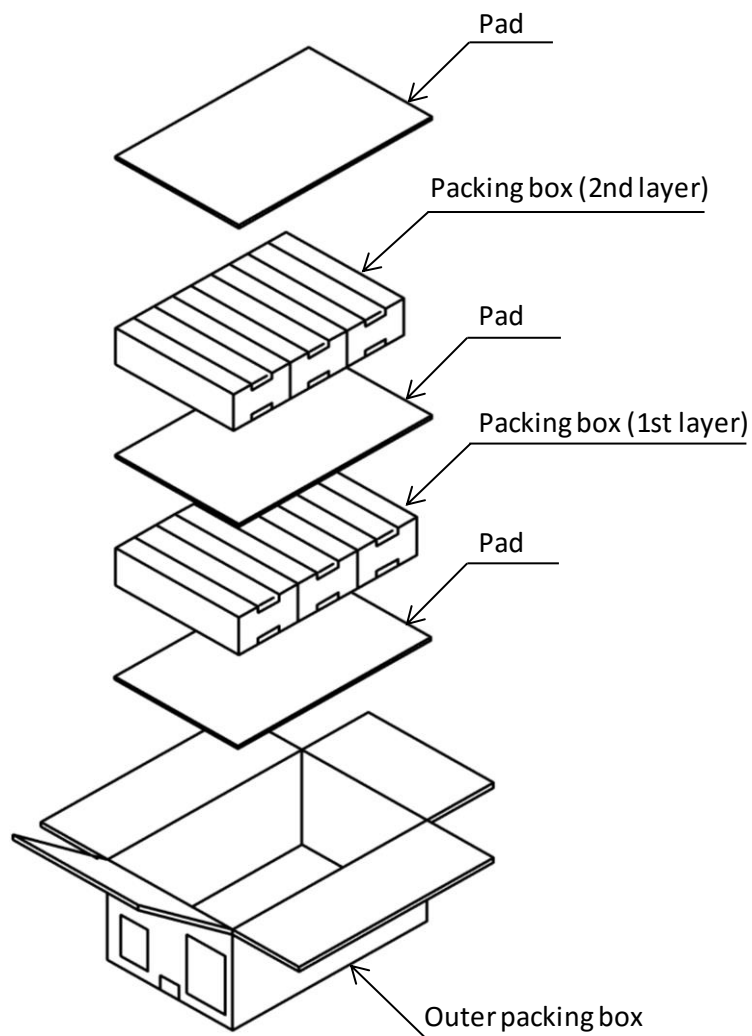

Fig. 4 Packing of outer boxes
- 4) Packing box in outer packing box is shown in Fig. 4.